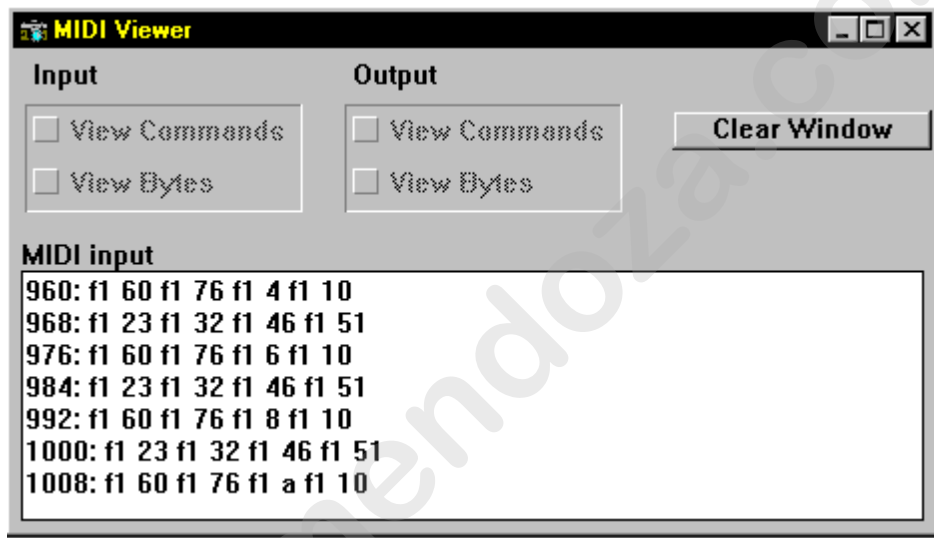

Figure 8.11. MIDI Viewer
2. If you wish to view the incoming MIDI data (optional), select **MIDI Viewer** from the **Window** drop-down menu. Refer to Figure 8.11.